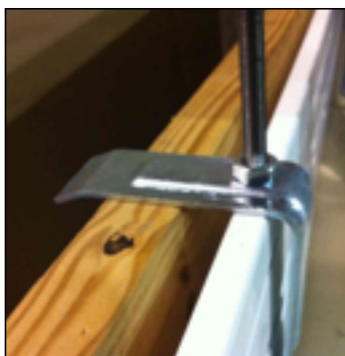

Figure 7
- * Slide joist hangers over rods and thread nuts down without tightening fully. With all hangers in place, helpers can let go of stair. See Figure 7.